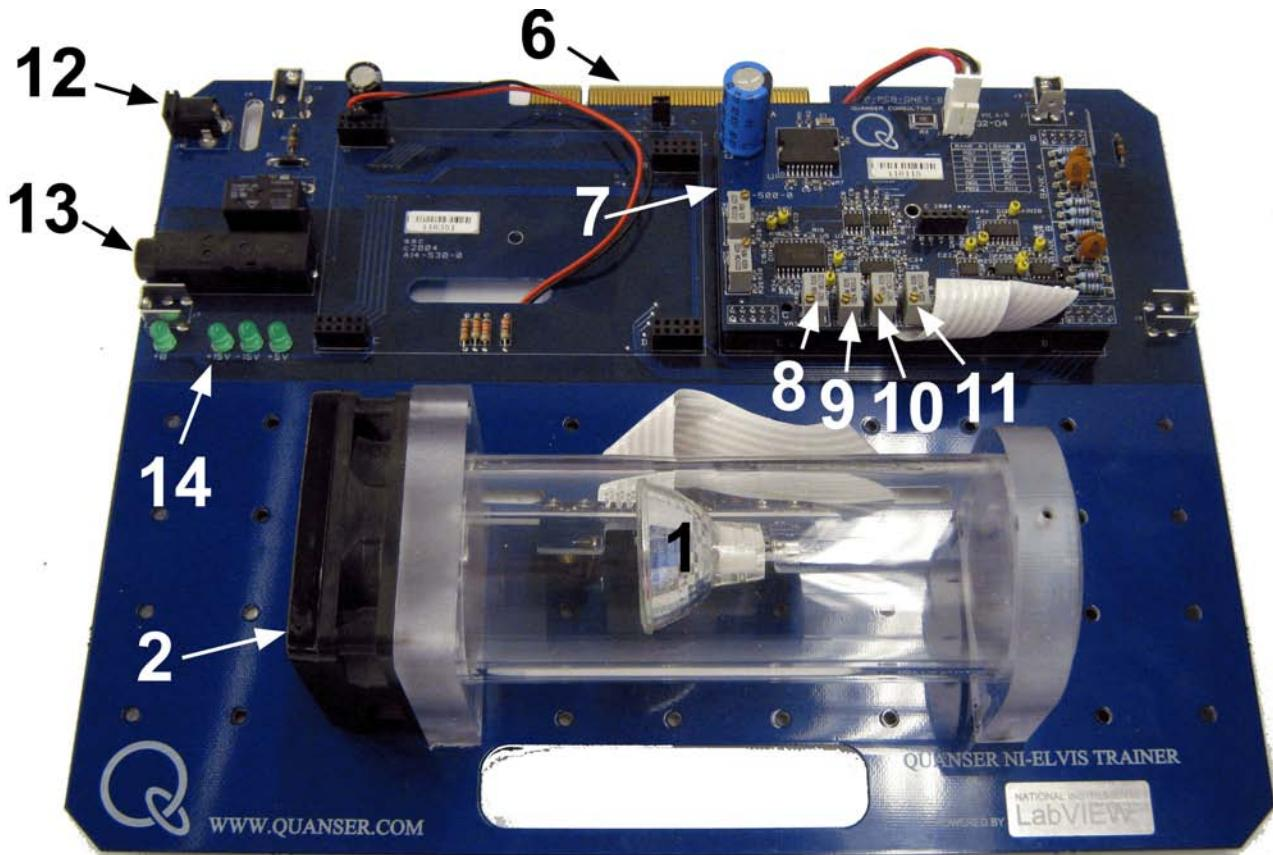
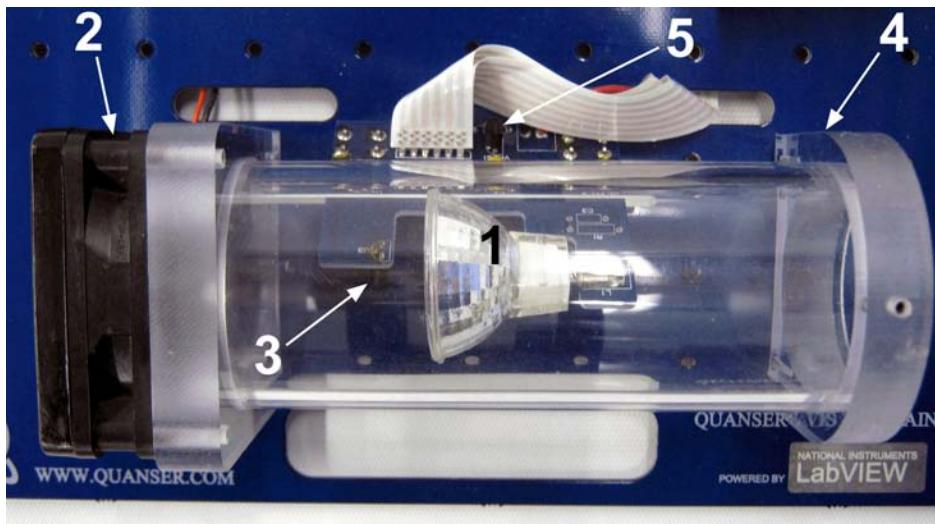

Figure 12: General layout of QNET-HVACT.
Figure 13: Components of QNET-HVACT heating chamber.
The photograph in Figure 12 shows an overview and the general layout of the QNET heating and ventilation trainer (HVAC trainer) system.
The HVACT components in Figure 12 and Figure 13 are located and identified by a unique ID in Table Table 4.
5. The thermistor offset can be changed on the QNET PWM/Encoder board. The offset of the chamber thermistor and ambient thermistor sensors are ID #9 and ID #10 in Figure 12. Take a screwdriver with a small head and vary the knob corresponding to the sensor that needs to be calibrated. The offset is decreased by turning the knob clockwise.
7. **Do not change the sensor gain adjustments, ID #8 and ID #11 in Figure 12.** They are both turned counter-clockwise to get the maximum gain before the shipment.